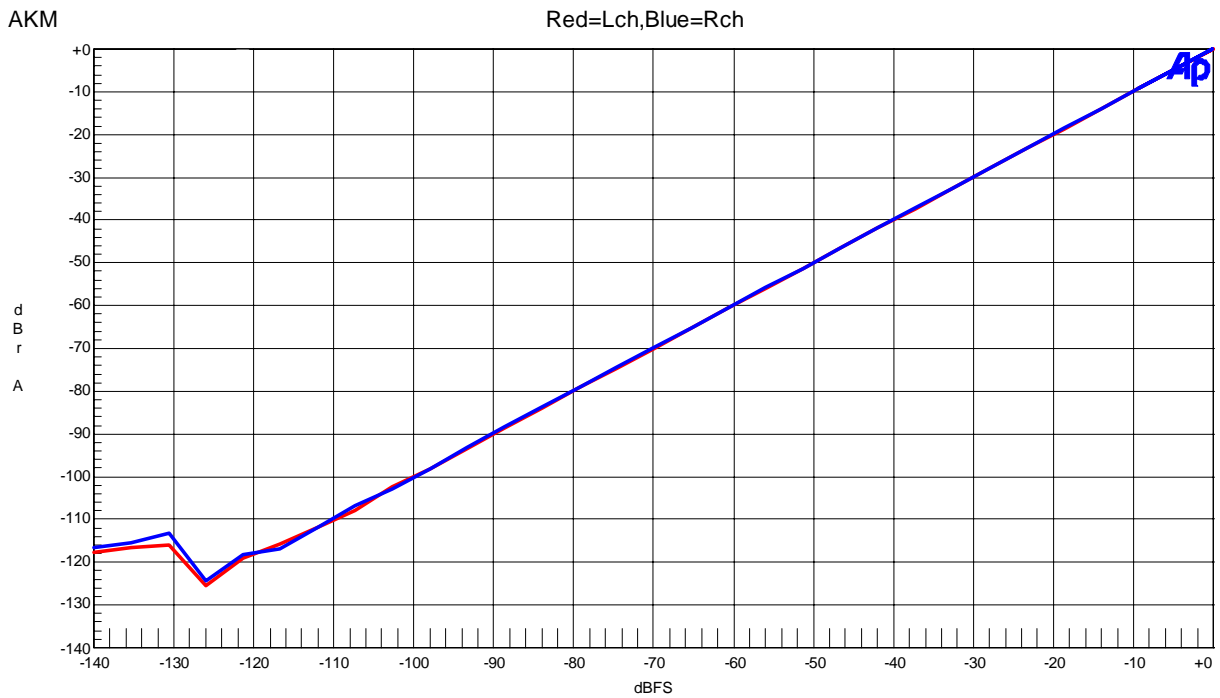

Figure 40. Linearity (Input Frequency=1kHz)
- Figure 40. Cross-talk (Input Level=0dBFS)